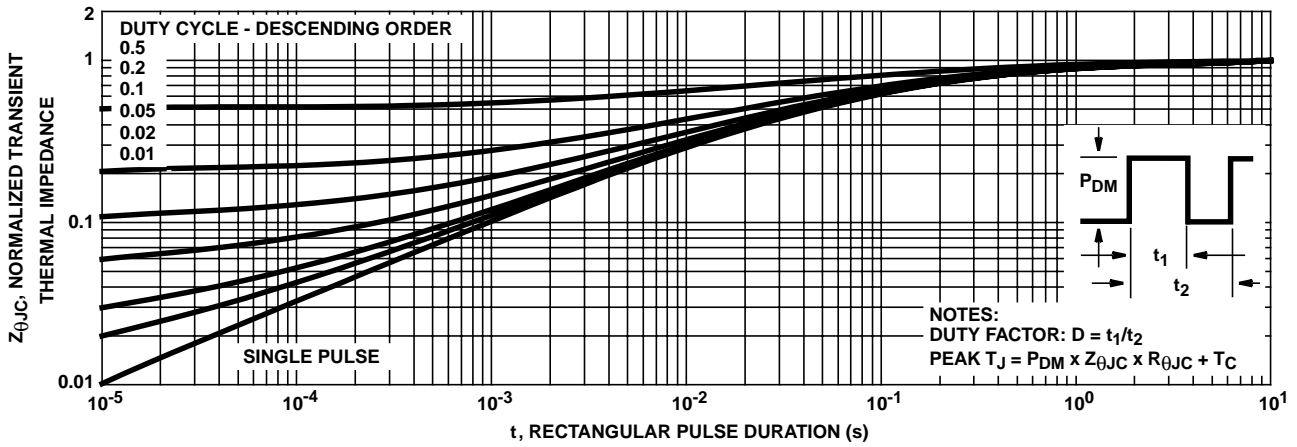

FIGURE 3. NORMALIZED MAXIMUM TRANSIENT THERMAL IMPEDANCE
- Repetitive rating: pulse width is limited by maximum junction temperature. See Transient Thermal Temperature curve (Figure 3).